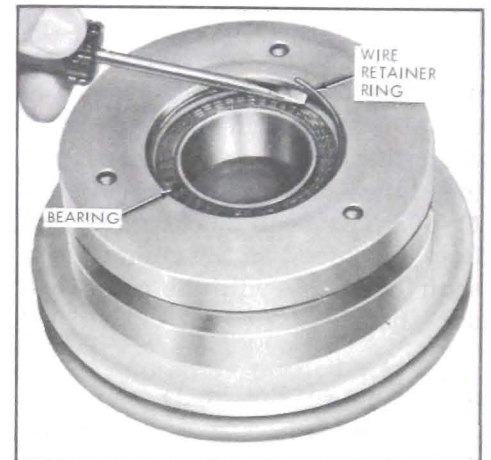

Figure 11-49—Removing Bearing Retainer Wire
4. Remove pulley bearing wire retainer with a small screwdriver. See Figure 11-49.